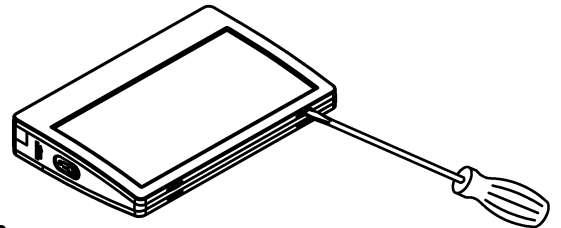

Fig 3
2. Open front cover by blade screwdriver (see Fig 3).